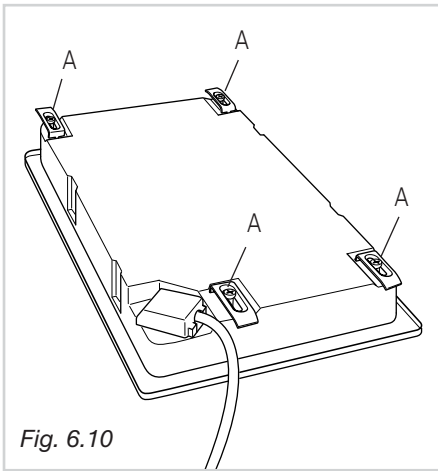

Fig. 6.10
- ✓ Turn the cooktop over and put tabs "A" (fig. 6.10) into the mountings, only tighten screws "B" a few turns.